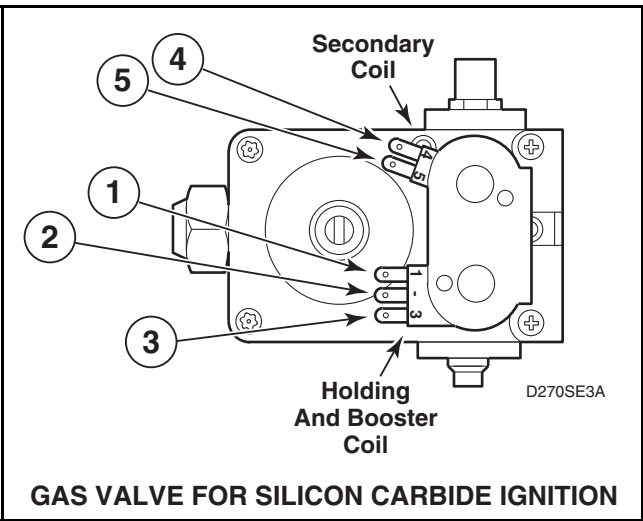

Figure 17
- d. Remove valve wire harness disconnect block from the holding and booster coil. Refer to *Figure 17*.
- e. Set test meter to read Ohms and put meter probes to terminals shown in *Figure 17*, and in the following chart.